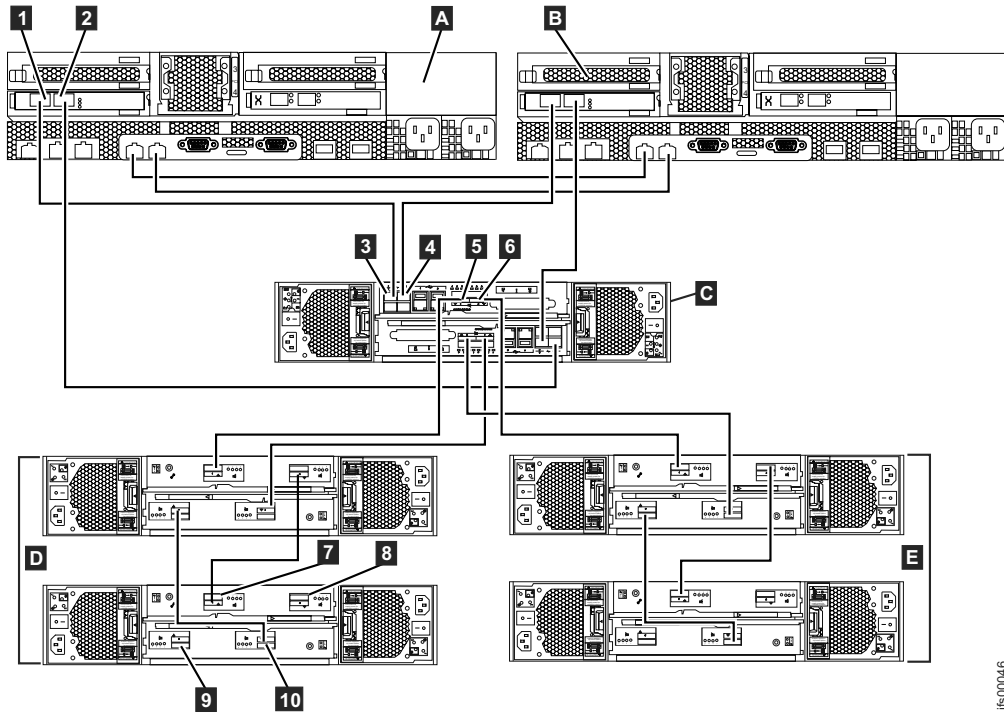

Figure 31. Internal cabling connections between file modules ([A] & [B]), control enclosure ([C]), and expansion enclosures ([D] & [E]).
*Table 1. Use this table to identify the file module, control enclosure, and expansion unit port locations for Figure 31 on page 28. Follow the links to identify detailed port locations.*
Table 2. How to connect SAS cables to expansion units. Refer to Figure 31.
Table 2. How to connect SAS cables to expansion units. Refer to Figure 31 on page 28. (continued)